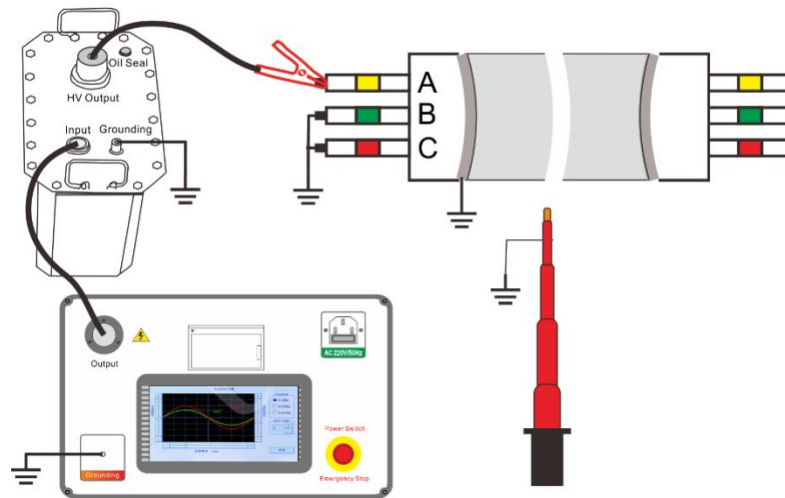

Figure 14 Wiring diagram of cable withstand voltage test
7.Test wiring: Connect the test equipment and the test cable with the special connection attached with the machine according to the method shown in Figure 14. After carefully checking the wiring is correct, turn on the power supply, set the test frequency, time and voltage again, as well as the overcurrent protection value and overvoltage protection value of the high voltage side, and then start the boost test.